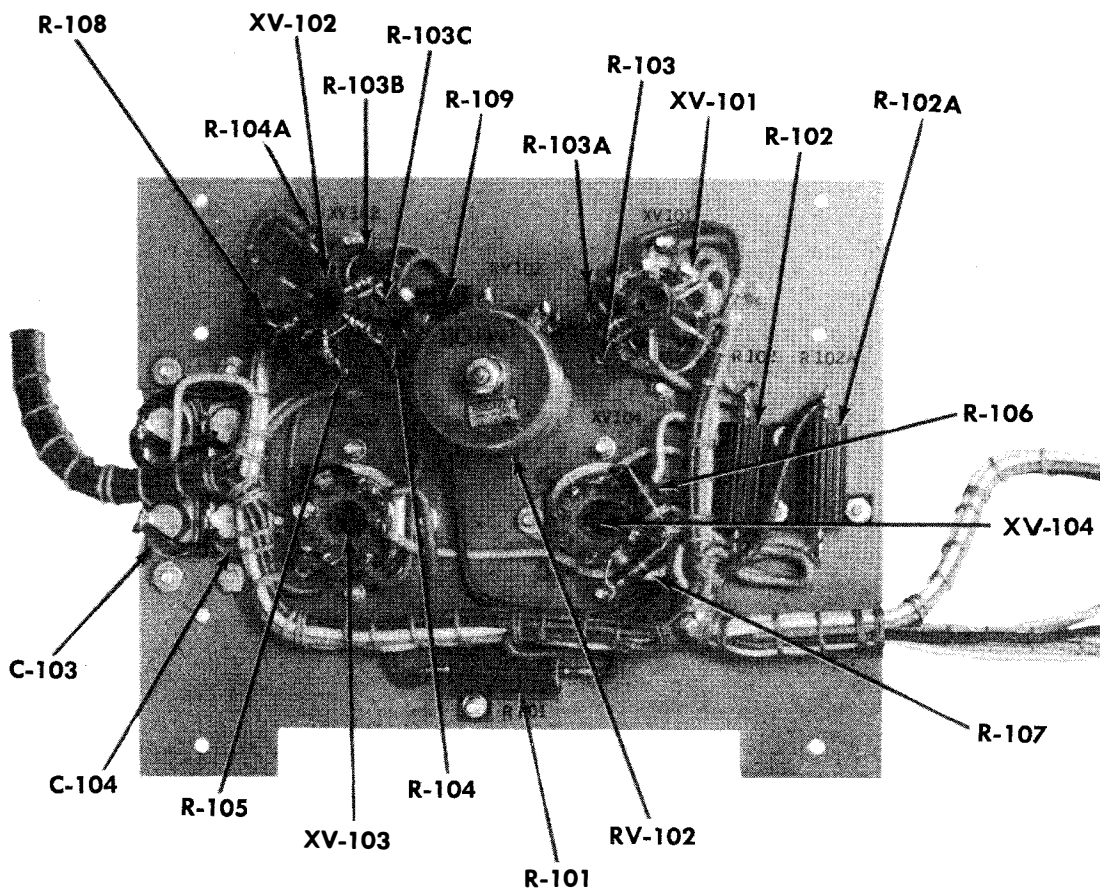

Figure 1-6 Power Supply PP-765/U Tube Mounting Plate (underside).
(4) BENEATH MOUNTING PLATE. (See figure 1-6)